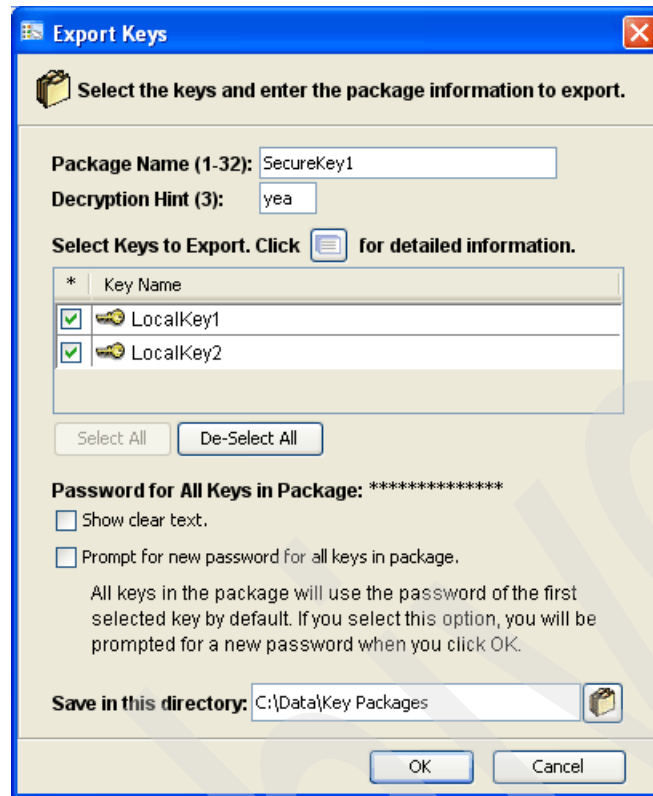

Figure 12-73 Selecting additional keys for export package
4. When you select a key with a different password, a password check is made. In Figure 12-73 we selected LocalKey2.